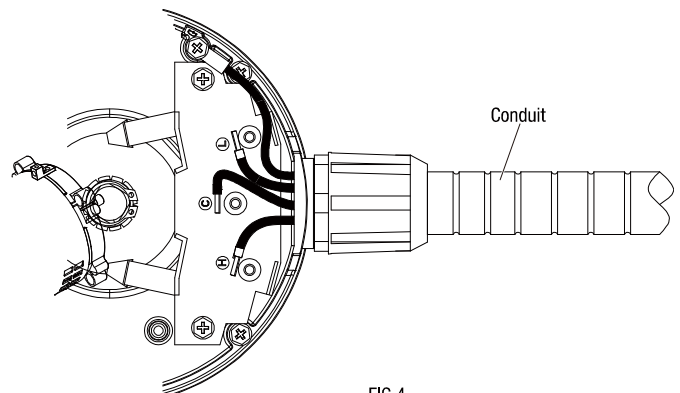

FIG.4
- Install conduit to connector. (FIG.4)